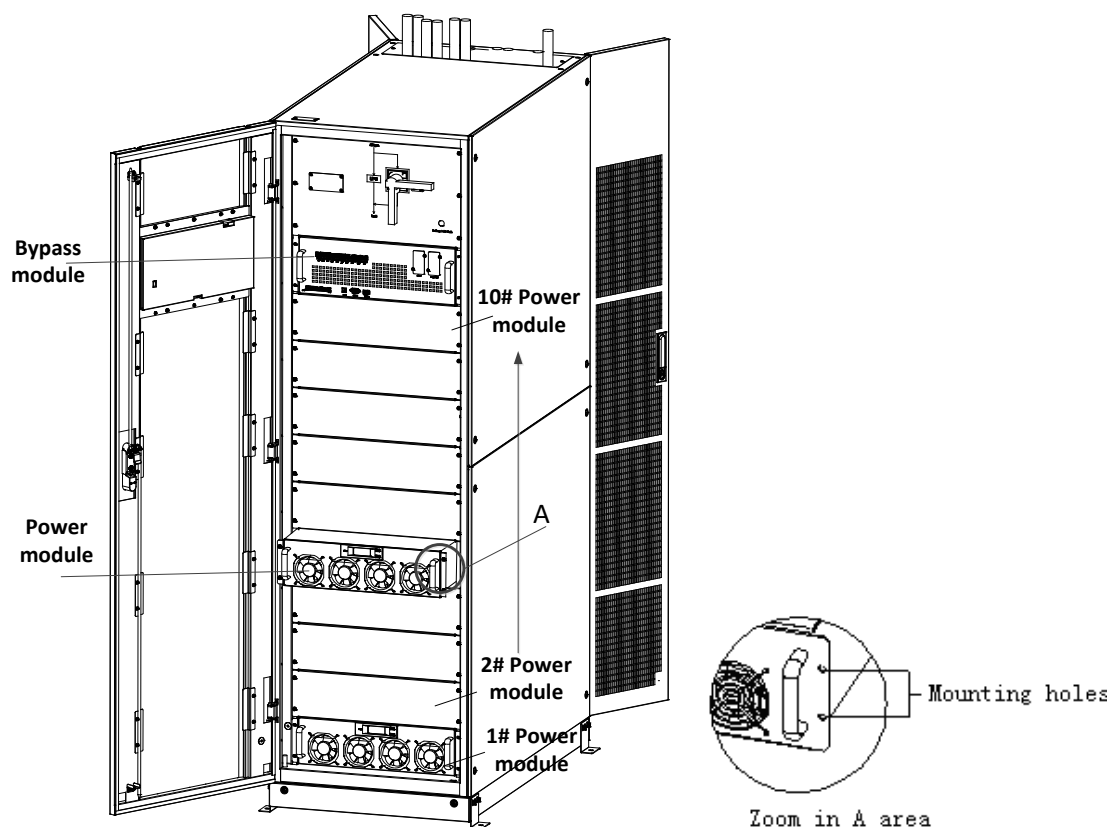

Fig.3-9 Installing power module
4. Fix the module to the cabinet though the mounting holes on two sides of the front plate of the module (See Fig.3-9 at right).